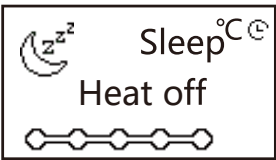

Fig. 6-2
- 5) Sleep time is up, hetaing is off, and it’ ll enter sleep mode, as Fig. 6-2.